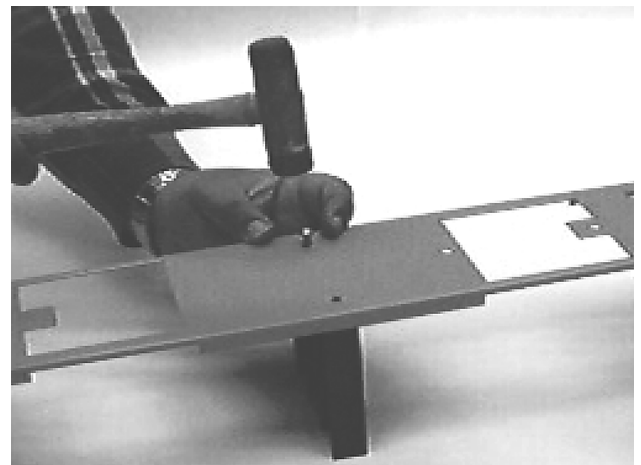

Figure 2. Attaching the center barrier to the breaker cover.
3. Attach the center barrier to the breaker cover for double-branch 3X or 4X TEB, TED, THED, TQD, THQD, SE, SF, TFK, THFK, and TFL breakers. Use two push-in rivets, as shown in Figure 2.